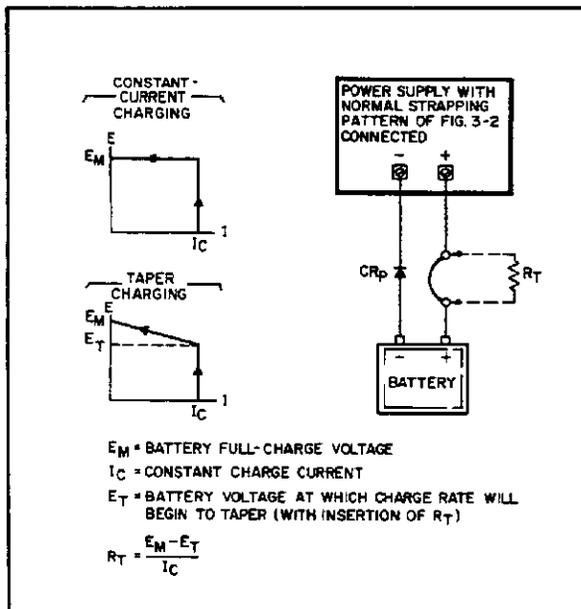

Figure 3-14. Battery Charging
*Any time these supplies are used to charge a battery, be sure to install a protective diode CRP in series with the battery as shown in Figure 3-14 to prevent the battery from discharging into the supply if the supply is turned off. Extensive damage to the supply could result if this diode were omitted.*
- e. Adjust the VOLTAGE control for an output voltage 0.7 volts greater than the desired full charge voltage. (The added 0.7 volts compensates for the drop across CRp.) The supply may then be connected to the battery terminals, positive to positive and negative to negative as shown in Figure 3-14 (omit RT).
**3-82 Taper Charge.** When charging lead-acid cells, many manufacturers recommend that the charging current be reduced as the charge nears completion. This can be accomplished by inserting a small resistance (RT) in series with one of the load leads from the supply to the battery. (See Figure 3-14.) This resistor alters the normally rectangular charging plot in such a manner as to provide a taper charge for the last portion of the charge. The proper value for this resistor is the difference between the full charge voltage and the voltage at which the tapering is to start, divided by the initial charging current. Set the initial charging rate and full charge voltage as instructed in paragraph 3-81.